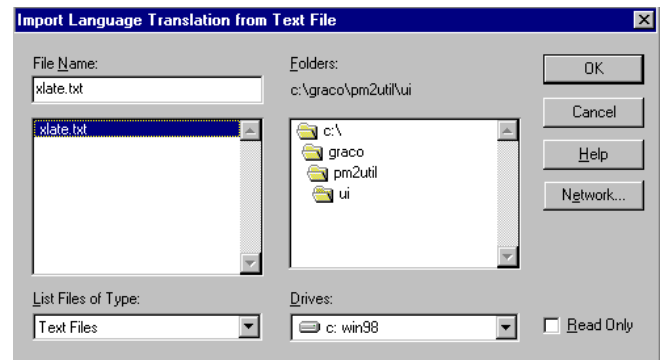

Fig. 13.56
- Select the desired text file, and press the OK button in the dialog box to update the database with your changes. Press the Cancel button to close the dialog box without making changes. See Fig. 13.56.